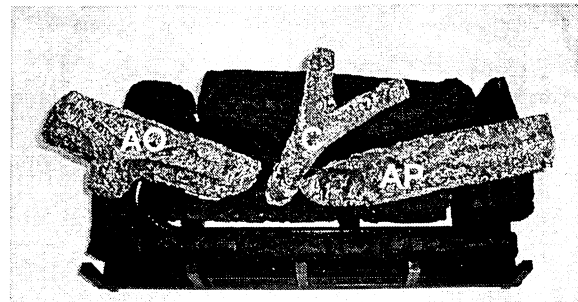

FIGURE 11F
3. Position top logs 'AO', 'C', and 'AP' onto the previously positioned logs as shown in figure 11F.